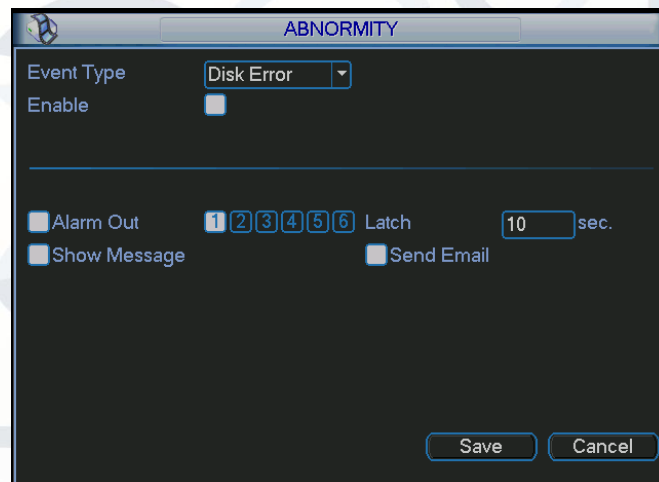

Figure 5-78
- **Alarm set:** Click the alarm set button, the interface that appears is shown below (see Figure 5-78) (This interface is just like the abnormality setup). Please refer to **chapter 5.7.2** for detailed information.